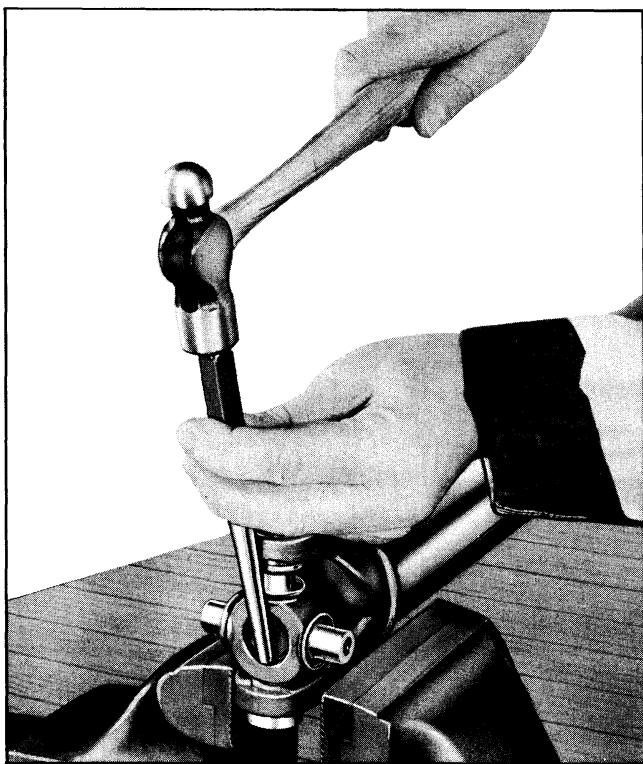

Fig. 4A-7 Removing Bearing From Fixed Yoke Member
c. Hold journal up and install three or four small flat washers (Fig. 4A-8). Lower journal onto washers and drive bearing out using drift applied to journal.